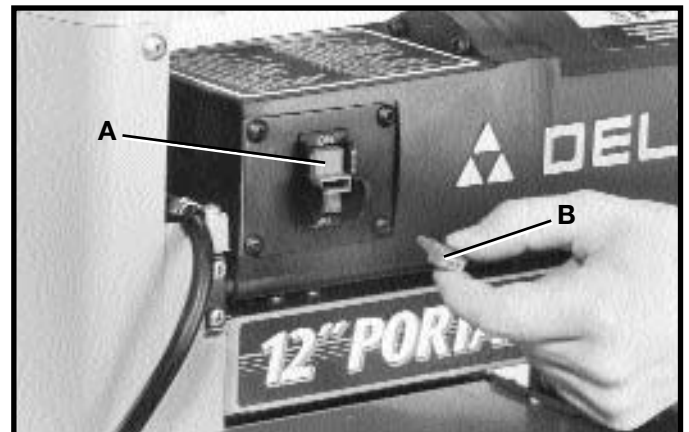

Fig. 14
**IMPORTANT:** When the tool is not in use, the switch should be locked in the "OFF" position to prevent unauthorized use. Grasp the switch toggle (B) and pull it out as shown in Fig. 14. With the switch toggle removed, the switch will not operate. However, should the switch toggle (B) Fig. 14, be removed while the machine is running, the switch (A) can be turned "OFF" once, but cannot be restarted without reinserting the switch toggle.